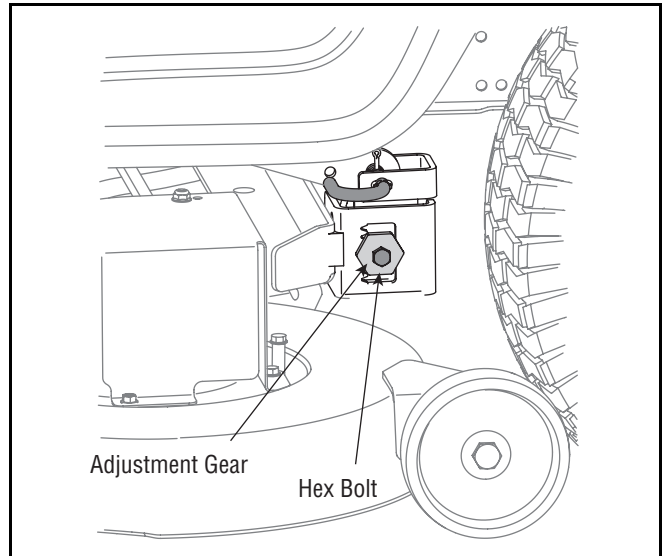

Figure 10
- Loosen, but do NOT remove, the hex bolt on the left deck hanger bracket. See Figure 10.
- Balance the deck by using a wrench to turn the adjustment gear (See Figure 10) up or down.